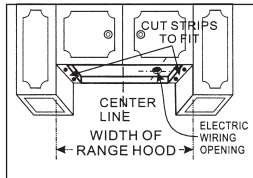

Fig.5
- Measure the space (under the cabinet between the inside front edge and inside back edge (Fig.5). With a saber saw, cut two 1"x2" wood filler strips (purchased locally) to fill in the bottom of the cabinet.